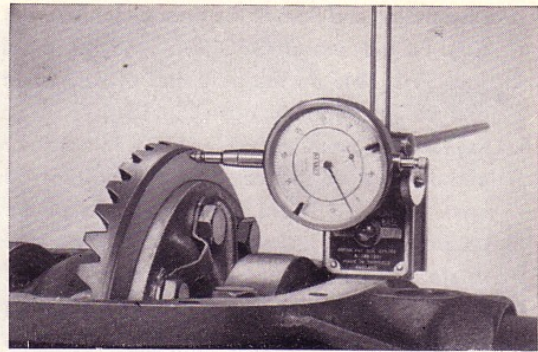

Fig. 28. Measuring the crown wheel run-out.
12. Fit the cap (2) with bolts and tighten the bolts to a torque of 5.5—7 kgm (40—50 lb. ft.). Fit an indicator against the reverse side of the crown wheel, see Fig. 28. Rotate the crown wheel and measure its run-out. This should not exceed $0.003''$ (0.08 mm).